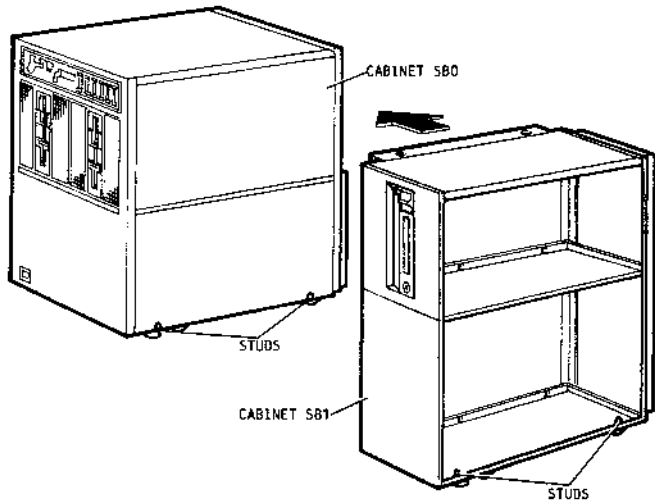

Fig. 2-29 Front View of SB0 and SB1 Frames
- Unscrew the terminals on the SB0 frame lower right (see figure 2-29) and mount them on the bottom right of the SB1